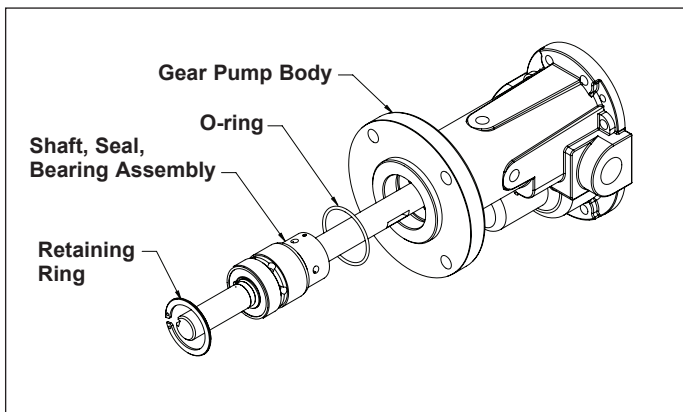

Figure 8 - Shaft, Seal and Bearing Assembly
3. From the drive shaft end of the gear pump, remove the internal snap ring (Ref. No. 13) from the body (Ref. No. 12). The drive assembly, which consists of the drive shaft (Ref. No. 9), seal assembly (Ref. Nos. 18 & 19), seat retainer (Ref. No. 16), bearing (Ref. No. 15) and retaining rings (Ref. No. 14), can now be removed from the unit (See Figure 8). Also remove the internal o-ring